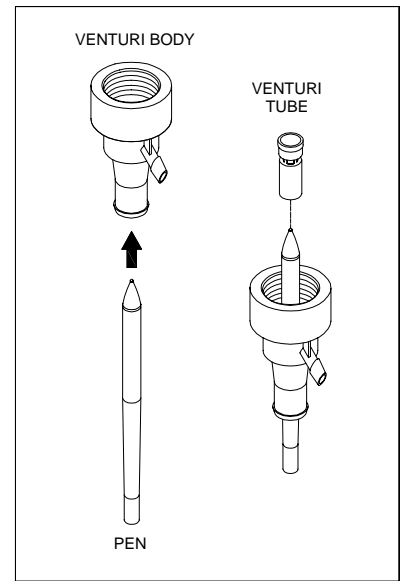

Figure 3
3. Push out existing venturi tube by inserting a pen up through the bottom of the venturi body — see Figure 3.